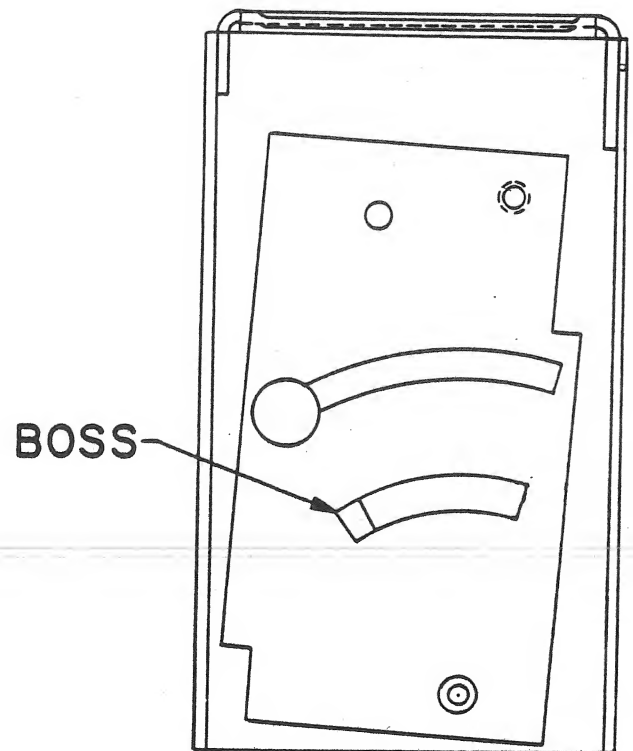

Fig. A7
2. Look in back of the bevel knob (the inside of the front of the yoke) and you will see a steel plate with (2) curved slots. The bolt to the bevel lock knob passes through the upper slot. A cast protrusion (called a boss) rides in the lower slot. This boss, moving to the ends of the slot, precisely locates the blade at 90° or 45° to the table. See Fig. A7.